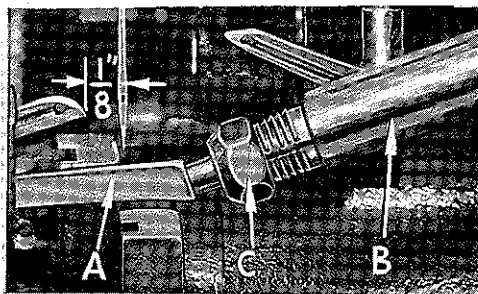

Fig. 6
At this point, insert lower looper (A, Fig. 6) into bar (B). With lower looper at left end of its stroke, set looper point $\frac{1}{8}$ inch from center of needle (Fig. 6), using looper gauge No. 21225-1/8. Do not have lower looper deflecting needle. Tighten nut.